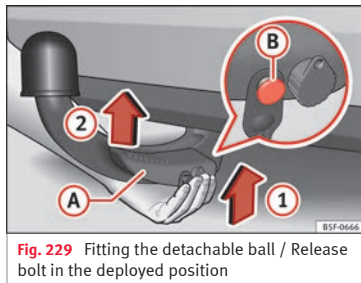

Fig. 229 Fitting the detachable ball / Release bolt in the deployed position
- Grip the detachable ball **from below** » **Fig. 229** and insert it into the hook hous-